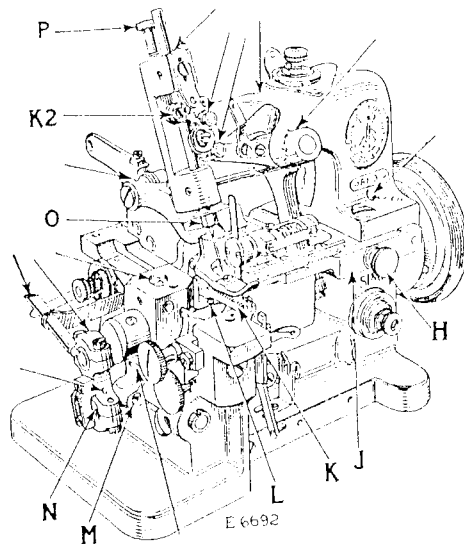
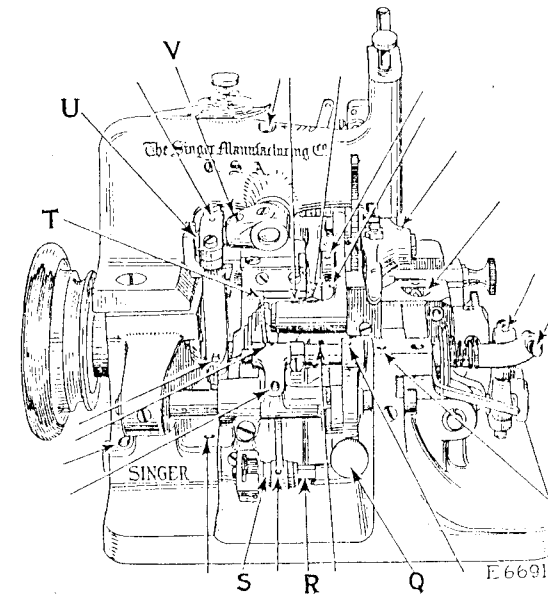
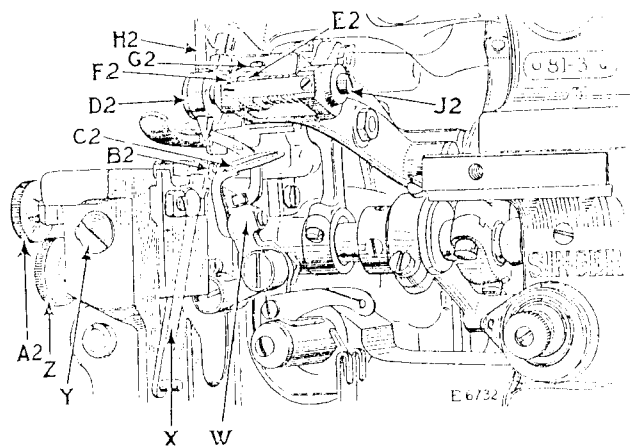

FIG. 2. OILING POINTS AT THE FRONT OF THE MACHINE
FIG. 3. OILING POINTS AT THE BACK OF THE MACHINE
FIG. 8
Turn the balance wheel over from you until the needle bar has risen $\frac{3}{32}$ inch from its lowest position. The point of the left hand looper, on its loop taking stroke, should then be at the centre of the needle, and the eye of the needle should be about $\frac{1}{16}$ inch below the looper point. If the needle bar is not at the correct height, loosen the pinch screw (K2, Fig. 2) and move the needle bar upwardly or downwardly as required, then securely tighten the pinch screw (K2).
A variation in the amount of needle bar stroke can be obtained by adjusting the ball stud (U, Fig. 3). To lengthen the stroke, loosen the set screw (V, Fig. 3) and move the ball stud inwardly or toward the crank. To shorten the stroke of the needle bar, move the ball stud (U) outwardly or away from the crank, then securely tighten the set screw (V).
The left hand looper (C2, Fig. 8) should be set in the looper carrier (W, Fig. 8) so that the point of the looper on its loop taking stroke just brushes the needle. The point of the right hand looper or spreader should pass at the recess back of the left hand looper eye as closely as possible without touching it.
A variation in the amount of the looper motion can be obtained by adjusting the ball stud (N, Fig. 2). To increase this motion, loosen the set screw (M, Fig. 2) and move the ball stud (N, Fig. 2) inwardly or toward the crank. To decrease the motion, move the ball stud outwardly or away from the crank. After the desired motion has been obtained, securely tighten the set screw (M, Fig. 2).
Oil should be applied to all oil holes marked "Oil" and to all oiling places indicated by arrows in Figs. 2 and 3.
Loosen the clamping nut (O, Fig. 2) at the lower end of the needle bar and put the needle up into the bar as far as it will go, with the ground-out side at the back, or farthest from you. Then tighten the clamping nut (O).
The length of stitch is regulated by the feed regulator (S, Fig. 3). With the wrench provided, loosen the screw stud (R, Fig. 3) and move the regulator backward or forward until the indicator (T, Fig. 3) points to the number, on the indicator plate, designating the required stitch. Then securely tighten the screw stud (R).
The pressure on the material is regulated by means of the thumb screw (P, Fig. 2). To increase the pressure, turn this thumb screw downwardly. To decrease the pressure, turn the thumb screw upwardly.
The lower knife (X, Fig. 8) should always be fastened in position when removing or replacing the upper knife. The lower
To take out the lower knife (X, Fig. 8), loosen the thumb screw (A2, Fig. 8) and press the upper knife holder (D2, Fig. 8) toward the balance wheel, then draw the knife out downwardly. To replace the lower knife, have the presser foot and feed down, press the upper knife holder toward the balance wheel, and push the lower knife upwardly so as to touch the presser foot without lifting it, or so that it is just flush with the top of the throat plate, then tighten the thumb screw (A2, Fig. 8). To adjust the trimmer sidewise, loosen the thumb screw (H, Fig. 2) and move the extension bracket (J, Fig. 2) to the right or away from the upper knife, loosen the screw (Y, Fig. 8) and turn the thumb screw (Z, Fig. 8) inwardly or outwardly until the trimmer is in the desired position, then securely tighten the screw (Y). Move the extension bracket (J, Fig. 2) back toward the upper knife, leaving just enough clearance between the upper knife and the bracket so as to allow free movement of the upper knife, then tighten the thumbscrew (H, Fig. 2).
To remove the upper knife (H2, Fig. 8), loosen the screw (J2, Fig. 8) at the end of the knife holder, press the knife holder (D2) toward the balance wheel and remove the knife. When replacing the knife, have the knife holder in its lowest position and pressed toward the balance wheel, insert the knife and set it so that its cutting edge is just below the cutting edge of the lower knife, then tighten the clamping screw (J2).
To adjust the tension on the upper knife, loosen the set screw (G2, Fig. 8) and move the knife holder guide (E2, Fig. 8) toward the balance wheel until the distance between the knife lever (F2, Fig. 8) and the guide (E2, Fig. 8) is equal to the thickness of the upper knife when the knives are in contact with each other, then securely tighten the set screw (G2).
The feed dog (K, Fig. 2) should be set so that when it is raised to its highest point by the feed lifting eccentric the full depth of the teeth will project above the throat plate. The feed dog (K) can be set at the desired height after loosening the screw (L, Fig. 2). When the feed dog is set at the required height, securely tighten the screw (L).
When very elastic materials are to be sewn on any of the following machines: 81-3, 81-4, 81-6, 81-7, 81-20 and 81-21, the back feed dog (B2, Fig. 8) should remain in its raised position only long enough to permit the work to come out flat. To adjust the back feed (B2), turn the adjusting thumb screw (Q, Fig. 3) inwardly to lengthen its duration of feed and outwardly to shorten its duration of feed.